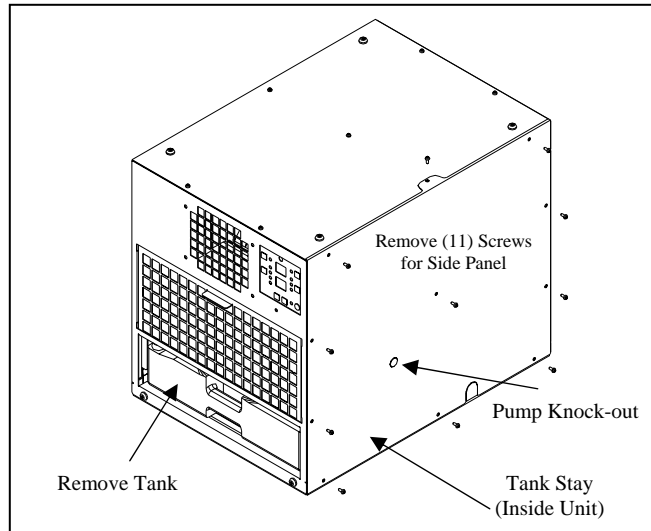

Figure 1
- 1) Prepare the CoolCube 10 Unit. See Figure 1 & 2.